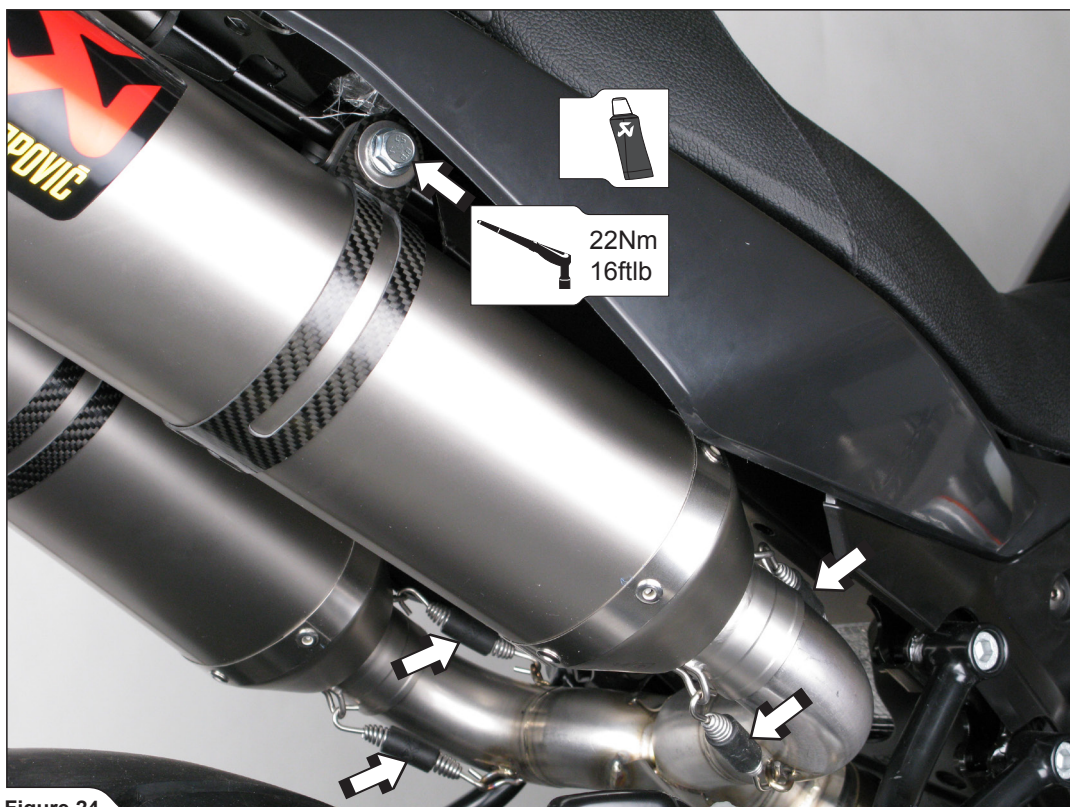

Figure 24
12. Position the mufflers correctly and slide them onto the outlet sides of the link pipe. Attach the springs, align the mufflers in respect to the motorcycle and tighten the carbon fiber clamps onto the mufflers bracket, using M8x20 bolts and washers (Figure 24).